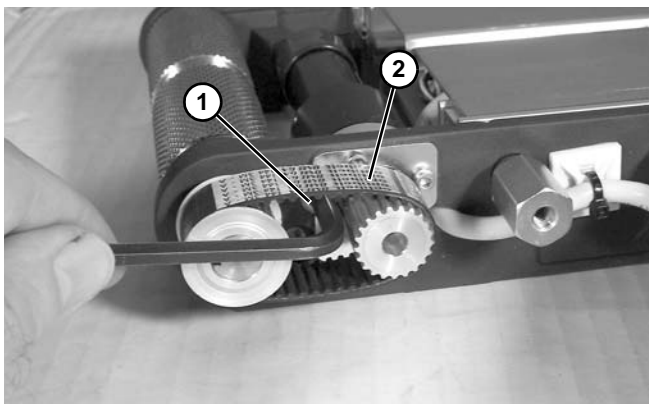

Figure 97
5. Loosen timing belt tension cam (Figure 97, item 1).
6. Remove timing belt (Figure 97, item 2).